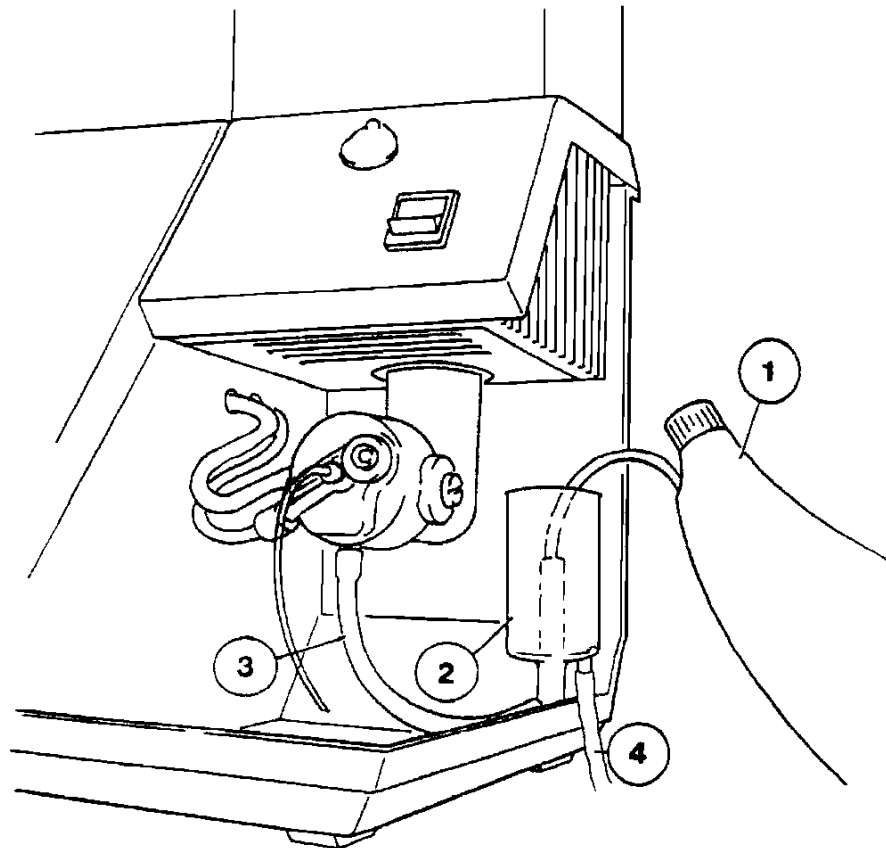

Figure 2.4 Filling the 'U' Tube
8. Fit a length of drain tubing (400 22 000) (item 4, Figure 2.4) to the outlet on the constant head drain (or Gas Trap). If necessary connect a suitable length of tubing (not supplied), to extend the drain tubing to carry waste to a sink or other drain receptacle. The downward flow of waste must not be restricted.
9. *Make sure* that the constant head drain (Gas Trap) is positioned so that it is pushed fully down on its retaining screws. Use a wash bottle (item 1, Figure 2.4) to fill the 'U' tube with deionised water. Sufficient water should be used to purge the tube of air. Allow excess water to flow back into the drain.